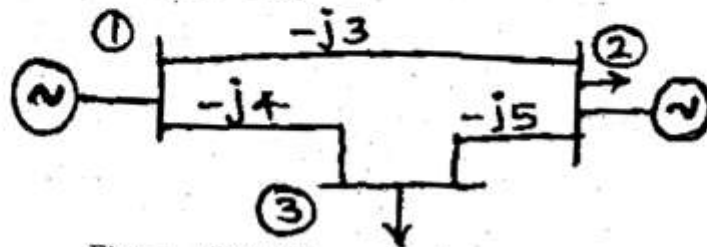

Figure. 12(a) A three — bus power system
- (ii) What are impedance and reactance diagram? Explain. (6)
12. (a) A three bus power system is shown in figure. 12(a). The relevant per unit line admittance on 100 MVA base are indicated on the diagram and bus data are given in table 12. (a) Form Y_{bus} and determine the voltages at bus 2 and bus 3 after first iteration using Gauss Seidal method. Take the acceleration factor $\alpha = 1.6$. (16)